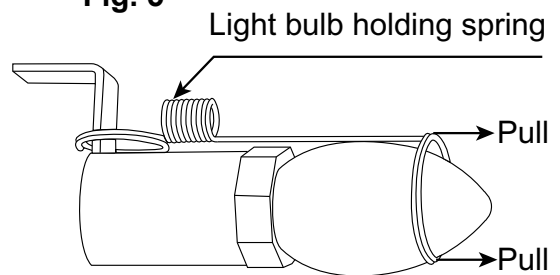

Fig. 6
5. Remove light bulbs and replace with clear 120V/ 40W, E12 Socket base light bulbs (Fig. 6).